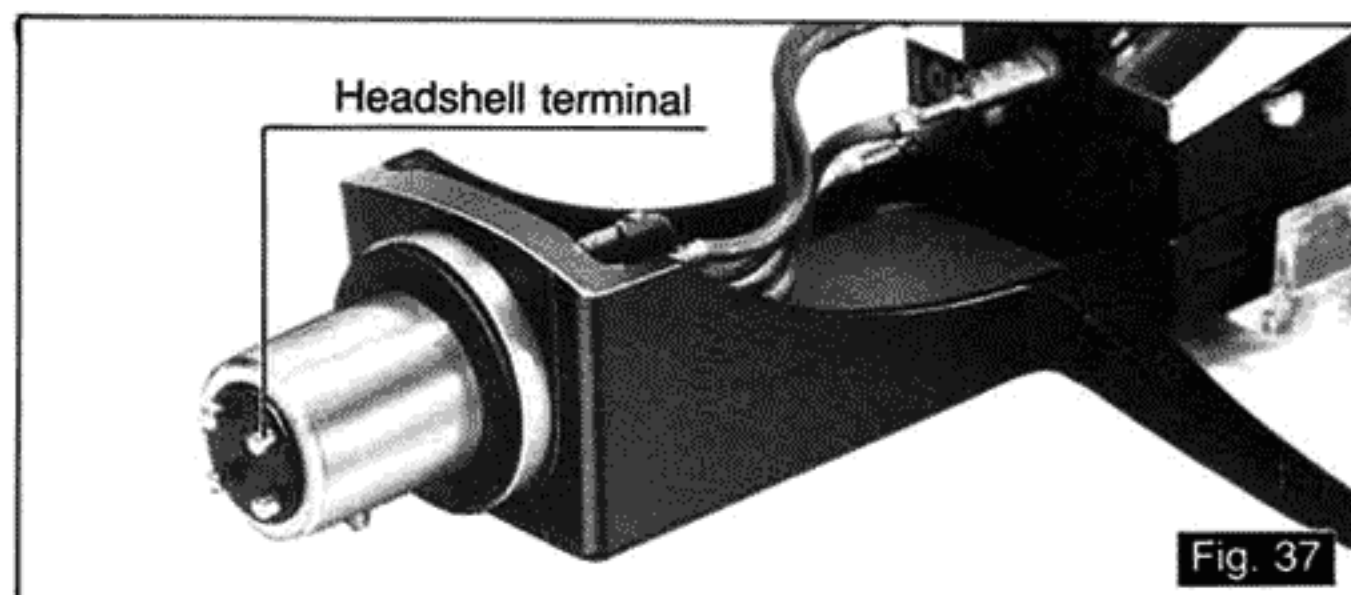

Fig. 37
**④ Wipe the headshell terminals from time to time. (See Fig. 37).**